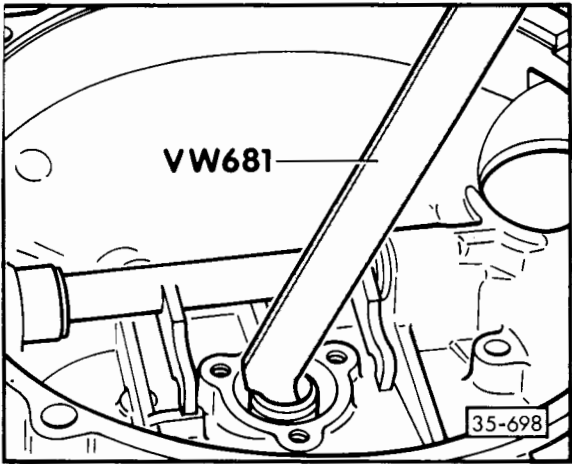

Fig. 1 Removing input shaft oil seal
- Pulling out – Fig. 1
- Removing – Fig. 1